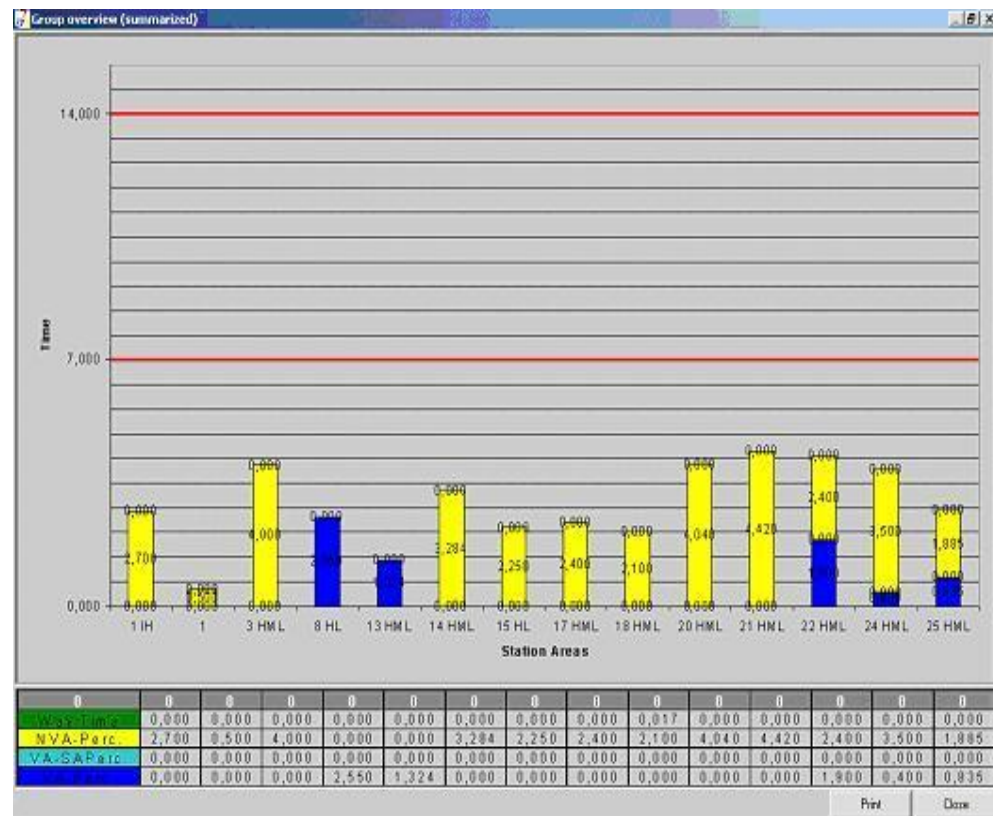

Figure 44: Example of a Diagram Summarized Group Overview
- 1) Click **Yes** if you want to summarize the group overview. *Please refer to the Figure 44.*